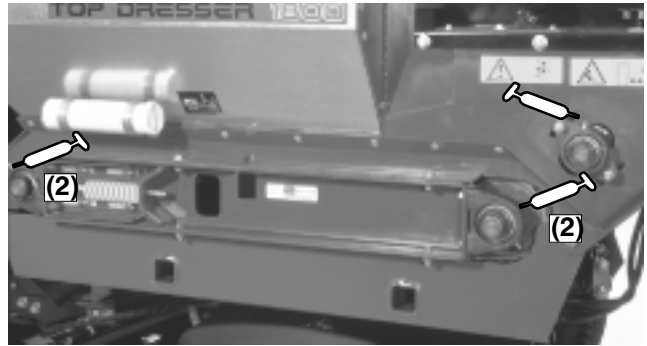
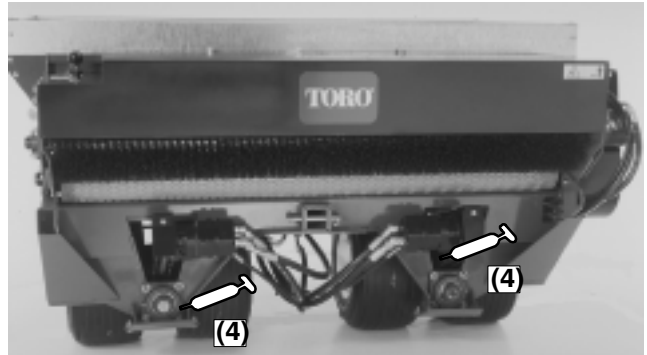

Figure 9
Figure 10
The grease fitting locations and quantities are: Roller shaft bearings (4) (Fig. 9), Brush shaft bearing (1) (Fig. 9), Pivot bearings (4) (Fig. 10) and Wheel bearings (4) (Fig. 10).